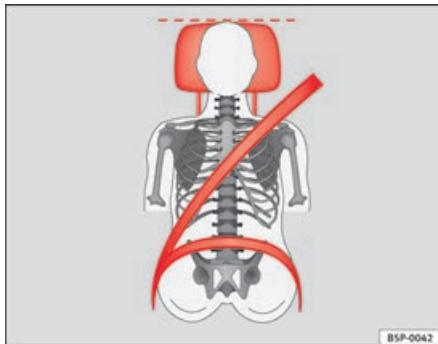

Fig. 13 Correct belt web and head restraint positions, viewed from front
- The shoulder belt must be positioned around the middle of the shoulder. The seat belt must lie flat and snugly on the torso ⇒ fig. 13.